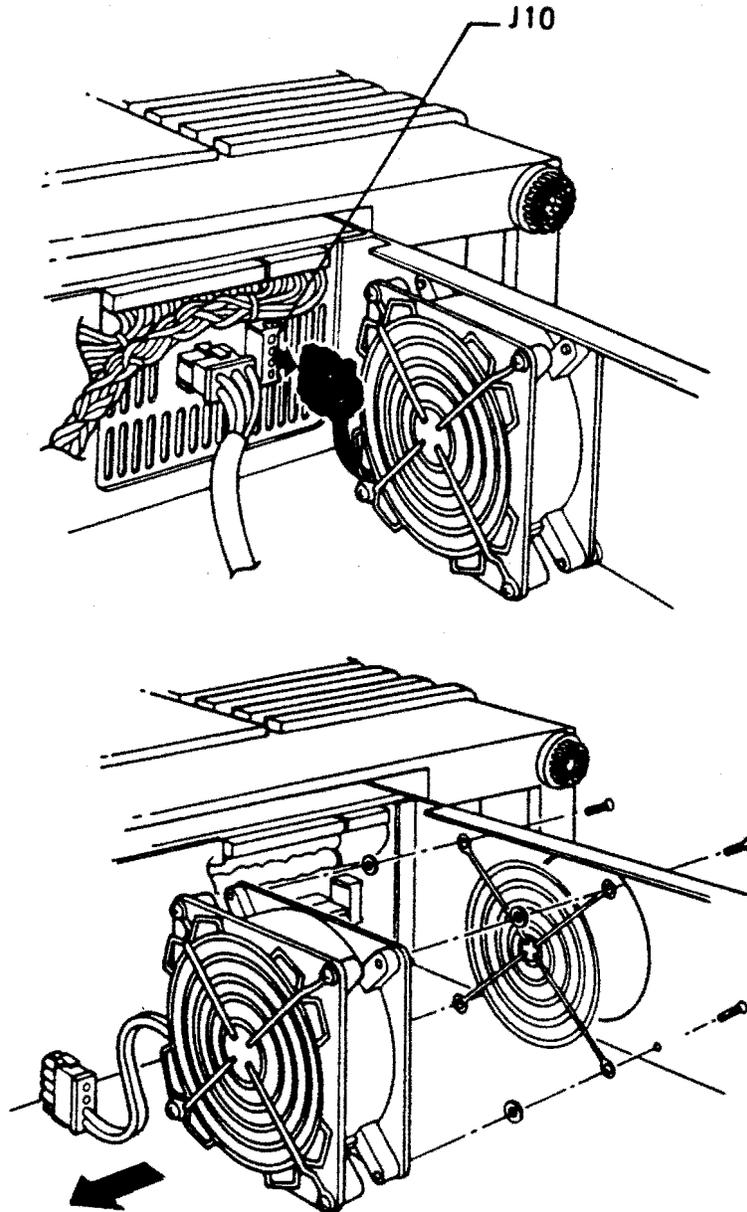

Figure 6-28: Front Fan Removal
8. Disconnect the power cord from J10 (Figure 6-28).